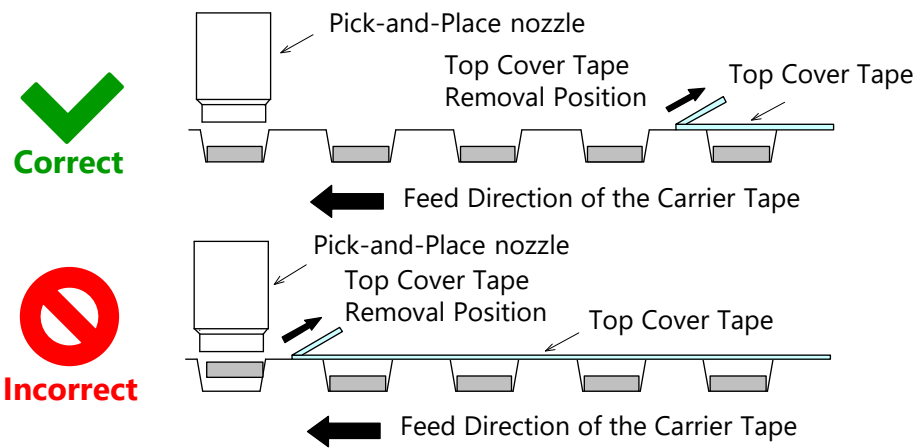

Figure 4. Examples of Correct/Incorrect Top Cover Tape Removal Positions
3. When removing the top cover tape, it should be done past three LEDs away from the target LED (See Figure 4). Otherwise, it may shake the embossed carrier tape and cause the LED to move within the tape pocket. This may cause